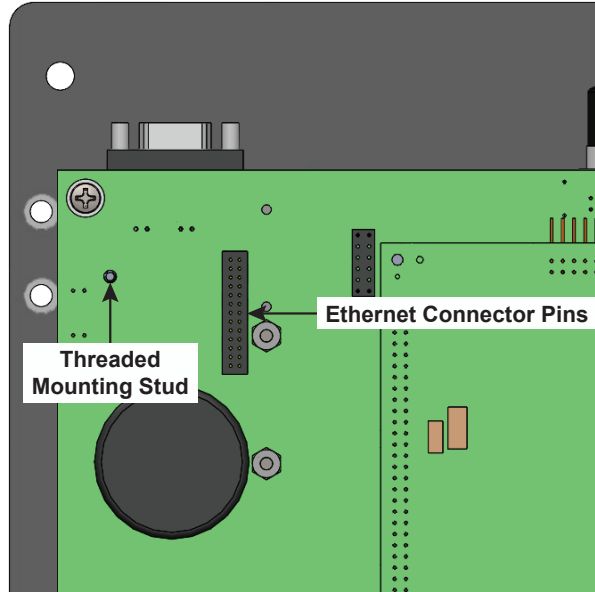
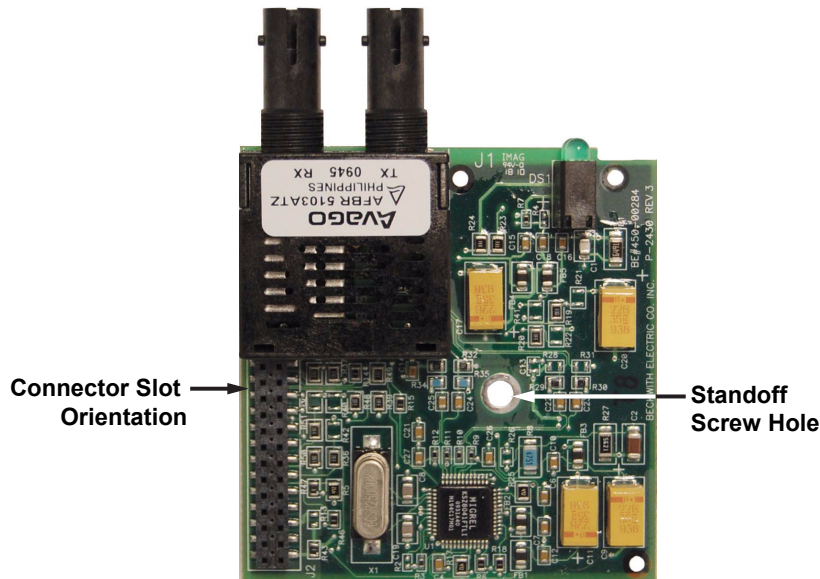
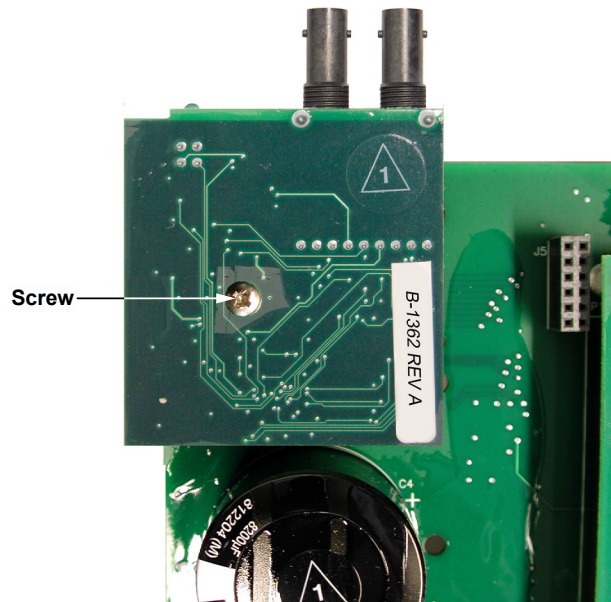

Figure 4-2 Main PCB, Upper-Left Corner
Figure 4-3 Bottom of Ethernet Fiber Optic Board, Connector Orientation
Figure 4-4 Main PCB, Ethernet Fiber Optic Board Installed
1. Locate the Ethernet connector pins and threaded mounting stud (Figure 4-2) on the upper left hand corner of the main PCB.
3. Observing the orientation of the connector slots (Figure 4-3) on the Ethernet board, mount the fiber optic Ethernet board onto the Ethernet connector pins (Figure 4-2) on the main PCB.
4. Install one 4-40 x 1/4 screw into the standoff through the Ethernet board standoff screw hole (Figure 4-3). Figure 4-4 illustrates the correct mounting of the Ethernet board.